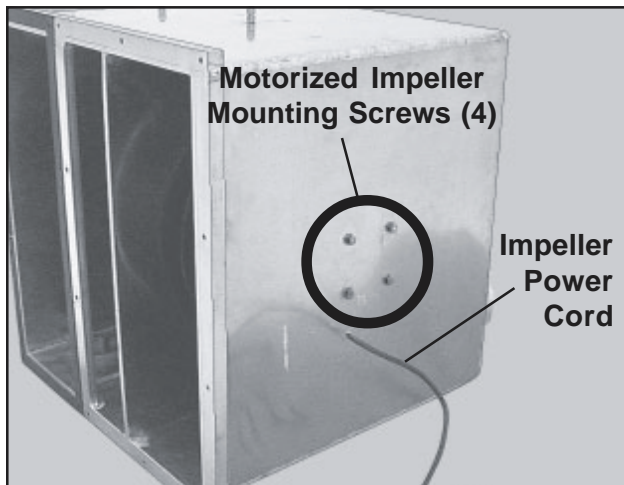

Figure 114. Right Side of Blower Box
10. With a 7/16 in. wrench, unscrew the four impeller mounting screws on the right side of the blower box (Figure 114). The impeller will now be loose inside the box.